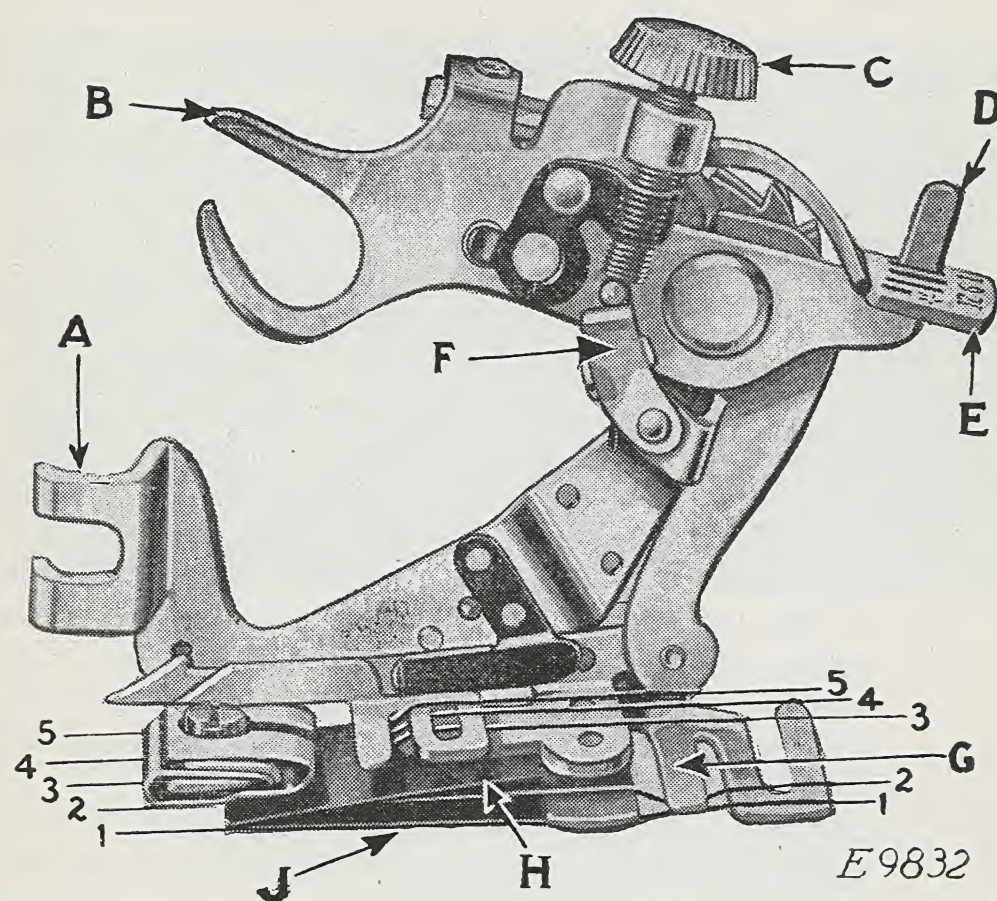
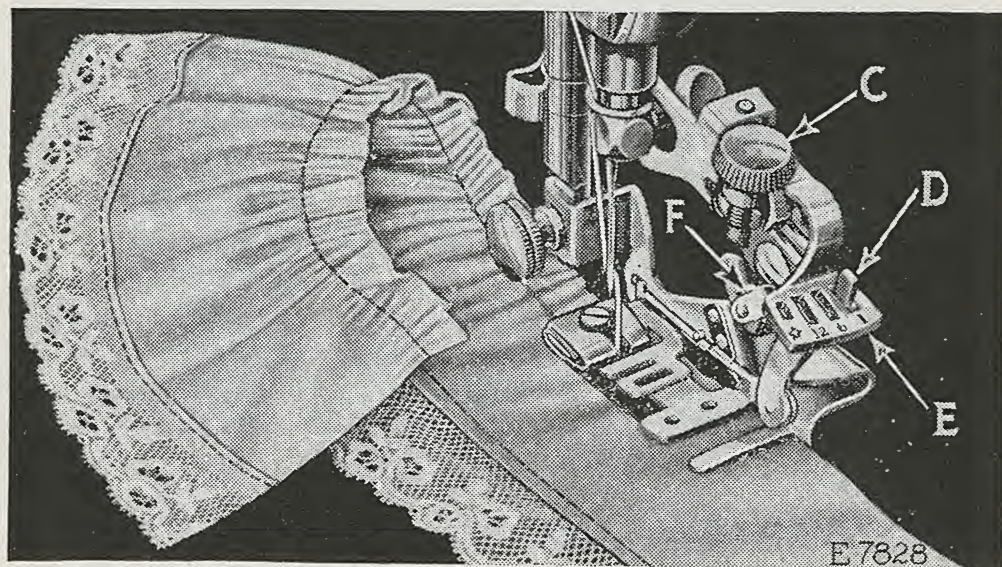
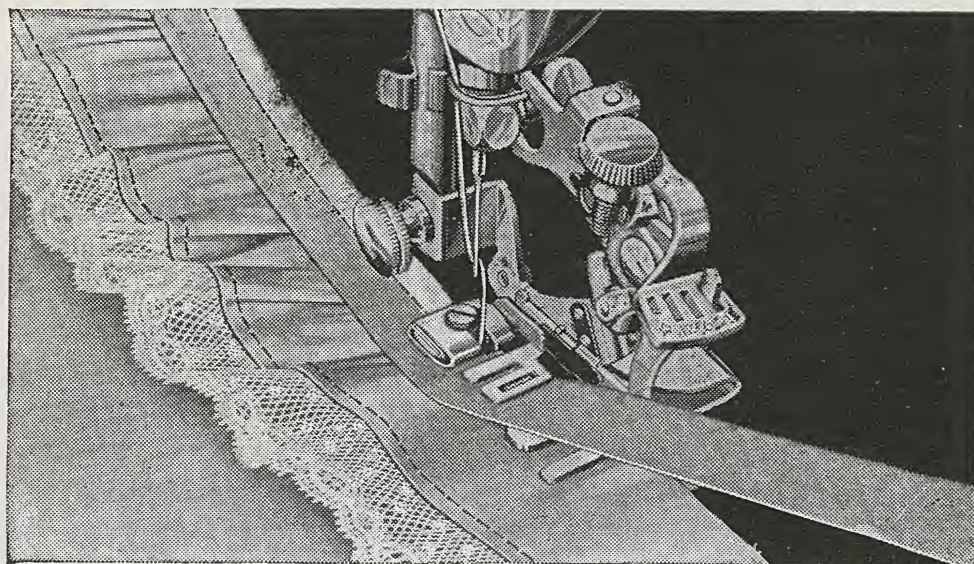
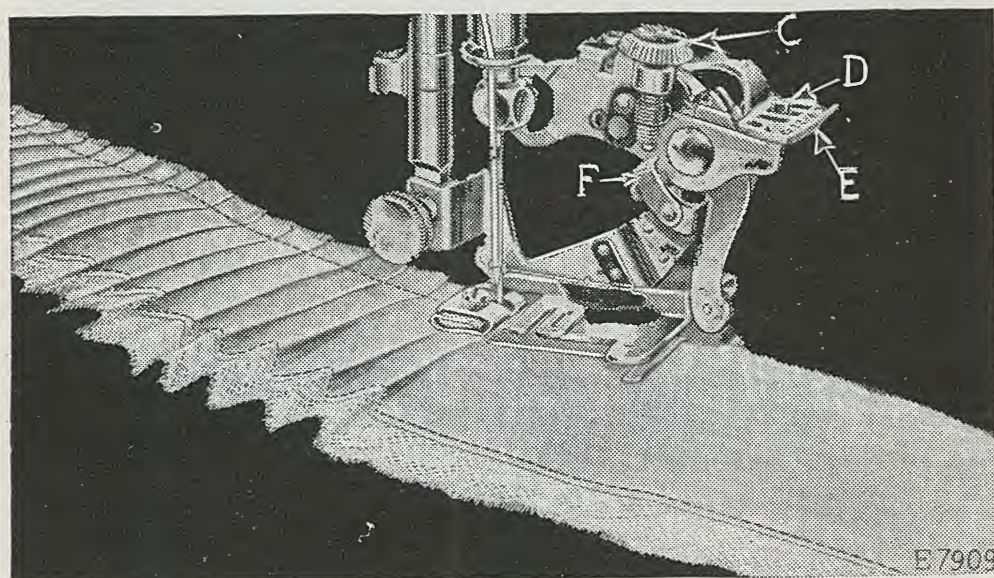

FIG. 40. THE RUFFLER AND ITS PARTS
FIG. 41
FIG. 43
FIG. 45
Lines 1, 2, 3, 4 and 5 shown in Fig. 40 indicate where the material is to be placed for various operations, as follows:
Refer to Fig. 40 when inserting the material in the ruffler.
(SEE REFERENCES IN FIG. 40)
Raise the needle bar to its highest point and remove the presser foot. Attach the ruffler foot (A, Fig. 40) to the presser bar by means of the thumb screw, at the same time placing the fork arm (B, Fig. 40) astride the needle clamp as shown in Fig. 41.
The adjusting finger (F, Fig. 41) is not intended for gathering and should be moved forward or away from the needle as shown in Fig. 41.
Raise the adjusting lever (E, Fig. 41) and move it to the left so that the projection (D, Fig. 41) will enter the slot marked "1" in the adjusting lever (E) when the lever is released. The ruffling blade will then move forward and back once at every stitch. Insert the material to be ruffled between the two blue blades, following the line 2 in Fig. 40. Draw the material slightly back of the needle, lower the presser bar and commence to sew.
To make fine gathering, shorten the stroke of the ruffling blade by turning the adjusting screw (C, Fig. 41) upward; also shorten the stitch. To make full gathering, lengthen the stroke of the ruffling blade by turning the adjusting screw (C) downward; also lengthen the stitch. By varying these adjustments, many pleasing varieties of work can be accomplished.
2, in Fig. 40. Place the garment to which the ruffle is to be attached, under the separator blade, following the line 1, in Fig. 40. Proceed the same as for gathering.
Insert the material to be ruffled between the two blue blades, following the line 2, in Fig. 40. Place the garment to which the ruffle is to be attached, under the separator blade, following the line 1, in Fig. 40. Place the material for the facing over the upper blue blade, as shown in Fig. 43, following the line 3, in Fig. 40. The facing may be straight or bias material. If the facing is to be on the right side of the garment, place the garment and
Insert the material to be ruffled between the two blue blades, following the line 2, in Fig. 40. This
The material for piping must measure about $\frac{1}{4}$ inch wide when folded in the center and is usually cut on the bias. Place the piping material in the ruffler, following the line 4, in Fig. 40, with the folded edge of the piping to the right. The material to which the piping and ruffling are to be sewn should be folded on the edge and inserted in the ruffler, following the line 5, in Fig. 40.
Raise the adjusting lever (E, Fig. 45) and move it to the right so that the projection (D, Fig. 45)
will enter the slot marked "6" in the adjusting lever when the lever is released. The ruffling blade will then move forward and back once at every six stitches. To adjust the ruffling blade to make a plait once at every twelve stitches, place the adjusting lever (E, Fig. 45) so that the projection (D) enters the slot marked "12" in the adjusting lever. Insert the material to be plaited between the two blue blades, following the line 2 (Fig. 40). The size or width of plaits is regulated by the adjusting screw
(C, Fig. 45) and the adjusting finger (F, Fig. 45). To make a wider plait, move the adjusting finger (F) back or toward the needle and turn the adjusting screw (C) downward. To make a smaller plait, turn the adjusting screw (C) upward. The distance between plaits is regulated by the length of stitch.